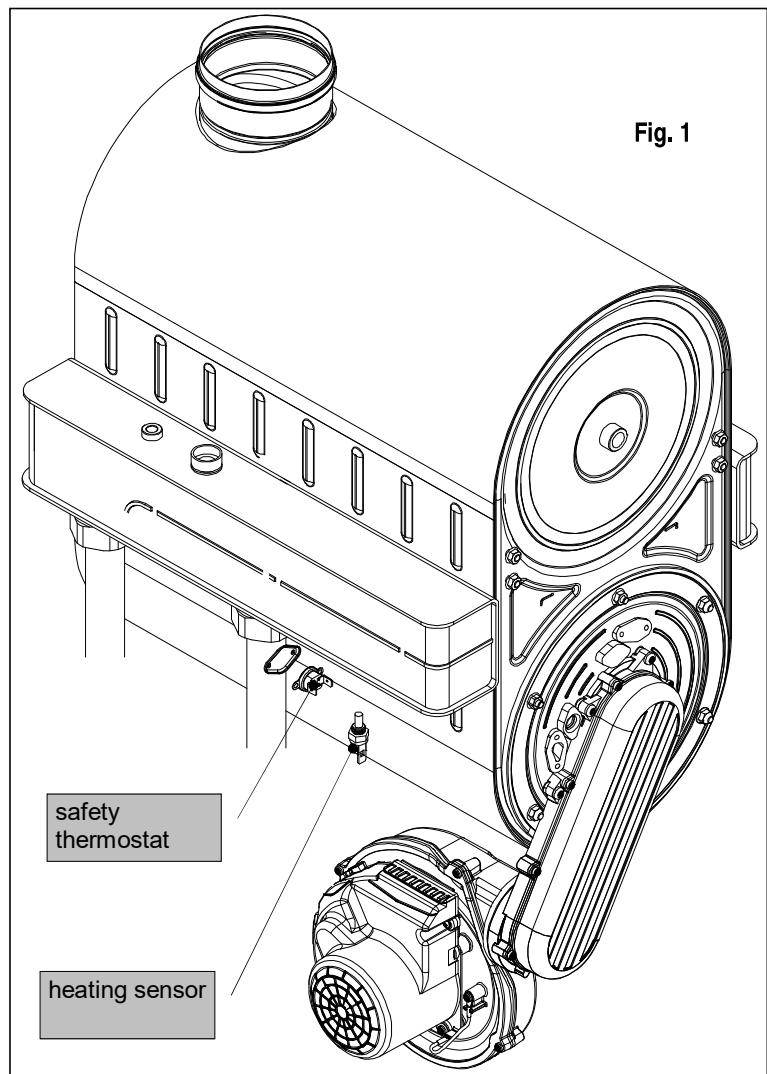

Fig. 1
6.6.8 Circulating pump (motor body) (fig. 1)